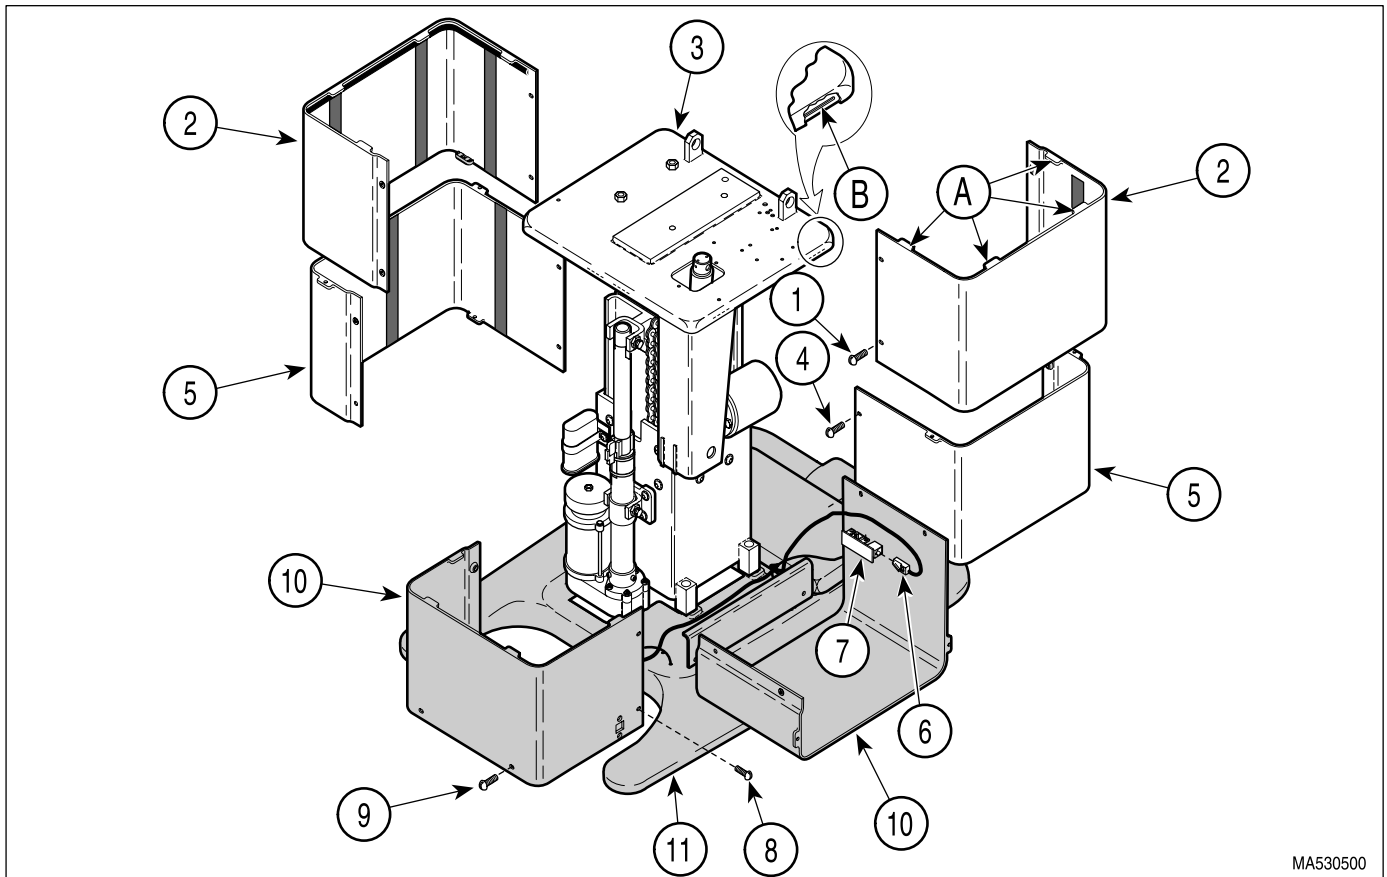
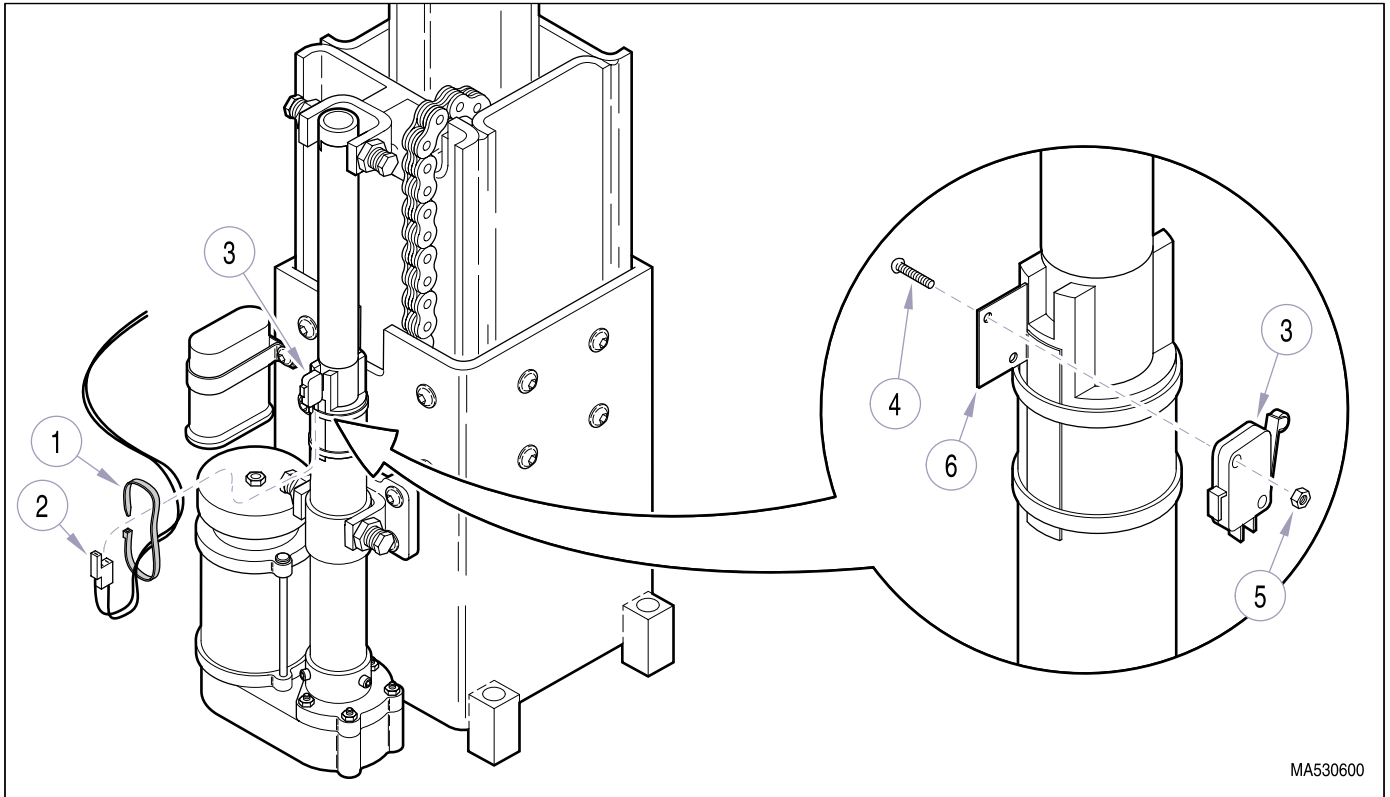

Figure 4-46. Base Shrouds Removal / Installation
Figure 4-47. Base Actuator Limit Switch Removal / Installation
- (2) Unplug table power cord from outlet receptacle.
- (3) Remove four screws (1, Figure 4-46) and R.H. and L.H. outer shrouds (2) from column adapter weldment (3).
| <p>(4) Remove four screws (4) and R.H. and L.H. middle shrouds (5).</p> <p>(5) Disconnect two modular cords (6) from two inlet PC boards (7).</p> <p>(6) Remove four screws (8), and four screws (9); then partially remove R.H. and L.H. inner shrouds (10) from base casting (11).</p> <p>(7) Cut wire tie (1, Figure 4-47); then disconnect wire harness (2) from terminals of limit switch (3).</p> <p>(8) Remove two screws (4), two nuts (5), and limit switch (3) from limit switch bracket (6).</p> | <p>(2) Connect wire harness (2) to terminals of limit switch (3).</p> <p>(3) Install R.H. and L.H. inner shrouds (10, Figure 4-46) on base casting (11) and secure with four screws (9), and four screws (8).</p> <p>(4) Connect two modular cords (6) to two inlet PC boards (7).</p> <p>(5) Assemble R.H. and L.H. middle shrouds (5) around inner shrouds (10) and secure with four screws (4).</p> <p>(6) Install tabs (A) of R.H. and L.H. outer shrouds (2) in slots (B) of column adapter weldment (3) and secure with four screws (1), making sure middle outer shroud assembly (5) is captured by R.H. and L.H. outer shrouds (2).</p> |